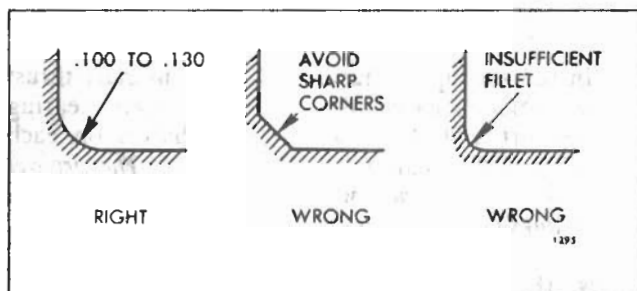

Fig. 7 - Crankshaft Journal Fillets
3. All journal fillets must have a .100" to .130" radius between the crank cheek and the journal and must not have any sharp grind marks (Fig. 7). The fillet must blend smoothly into the journal and the crank cheek and must be free of scratches. The radius may be checked with a fillet gage.